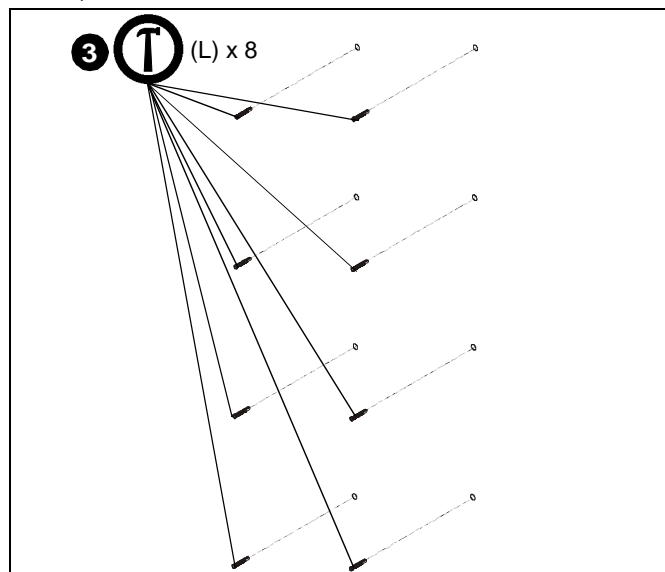

Figure 21
3. Install eight U10 anchors (L) into drilled holes. (See Figure 21)